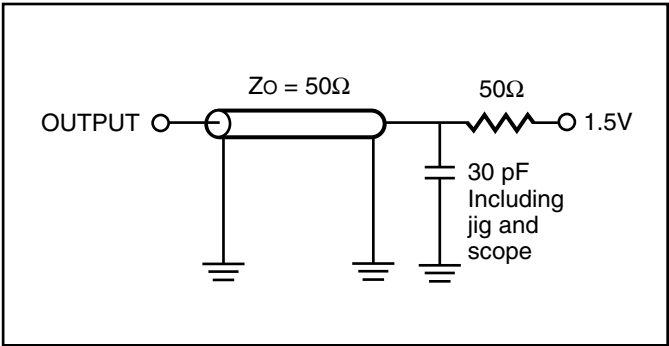

Figure 1.
1. Test conditions assume signal transition times of 3 ns or less, timing reference levels of 1.5V, input pulse levels of 0V to 3.0V and output loading specified in Figure 1.
1. Test conditions assume signal transition times of 1.5 ns or less, timing reference levels of 1.25V, input pulse levels of 0.4V to VDD-0.3V and output loading specified in Figure 1.